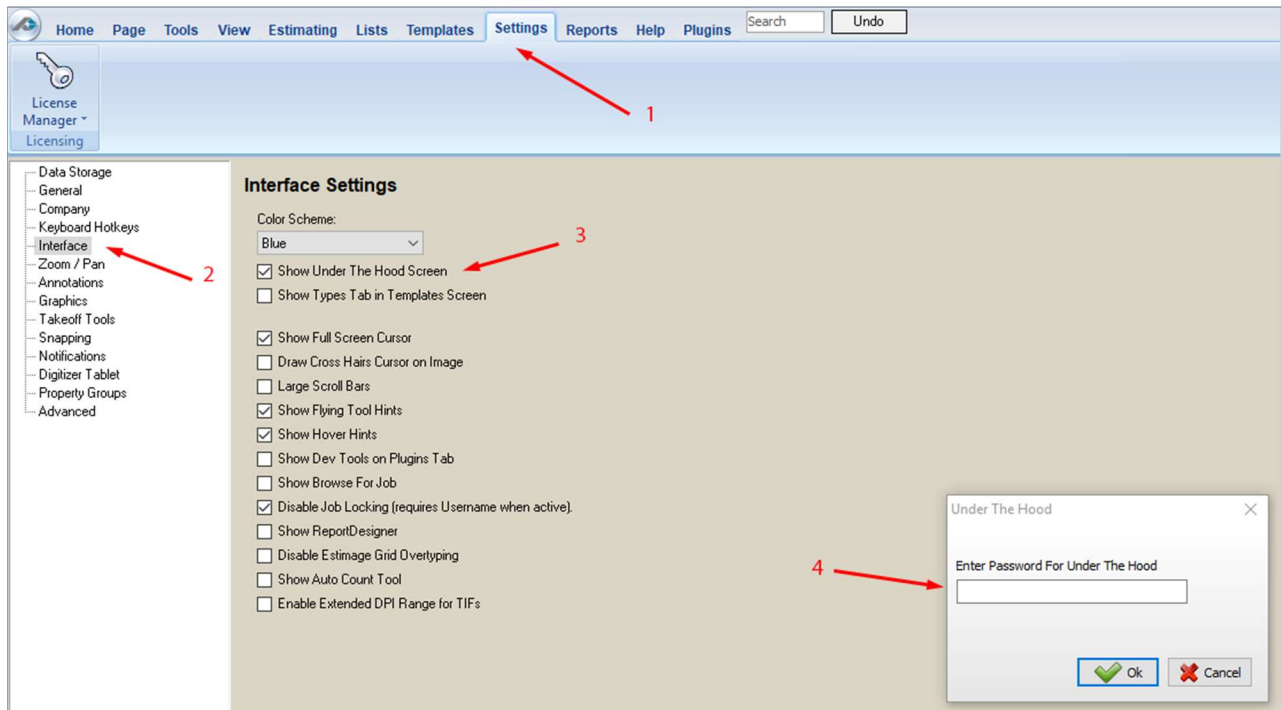

Figure 1
2. Click on **Settings** along the top ribbon bar (see #1 on Figure 1 below).
3. Select **Interface** from the options on the left (see #2 on Figure 1 below).
4. Click on **Show Under the Hood Screen** (see #3 on Figure 1 below).
5. For the password, please contact your PlanSwift representative or send an email to takeoff@constructconnect.com. Enter the password (see number #4 of Figure 1) and click on Ok.